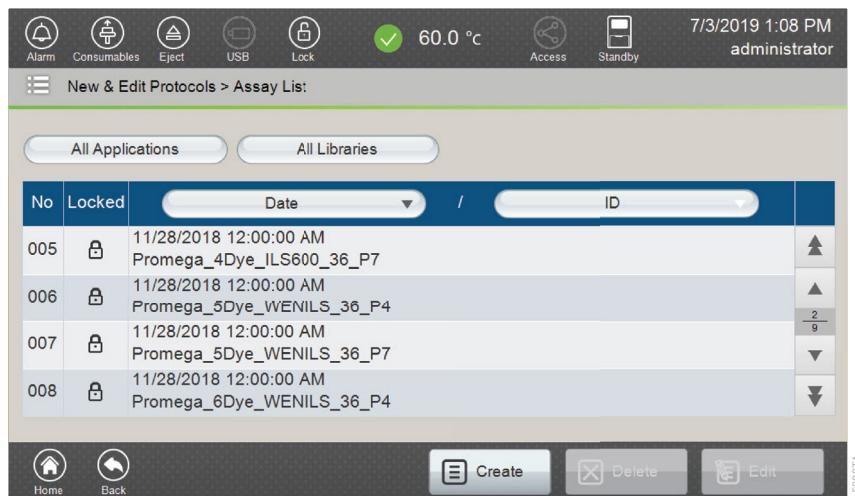

Figure 140. 'Assay List' screen.
1. Select **Assay** in the 'New & Edit Protocols' screen (Figure 117). This opens the 'Assay List' screen (Figure 140).